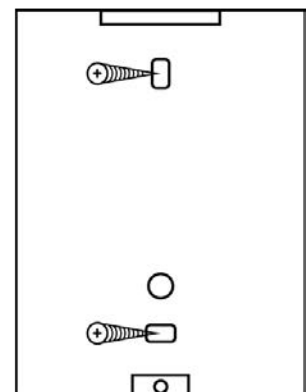

Figure 1 - Mounting Plate
1. Remove the mounting plate from the back of the unit to use as a template for the mounting screws, refer to Figure 1.